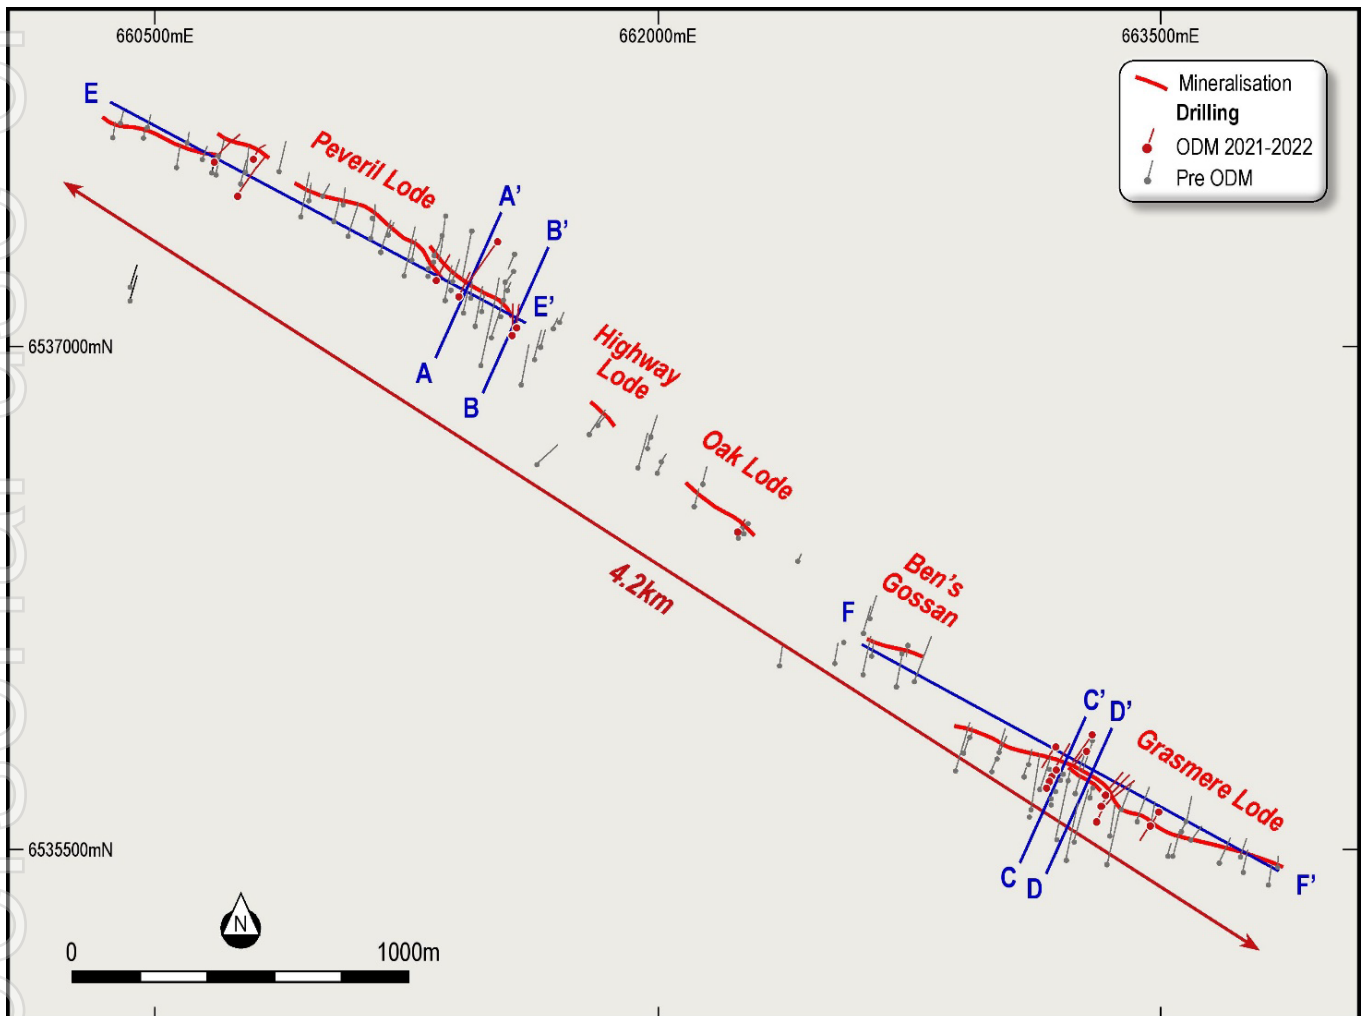
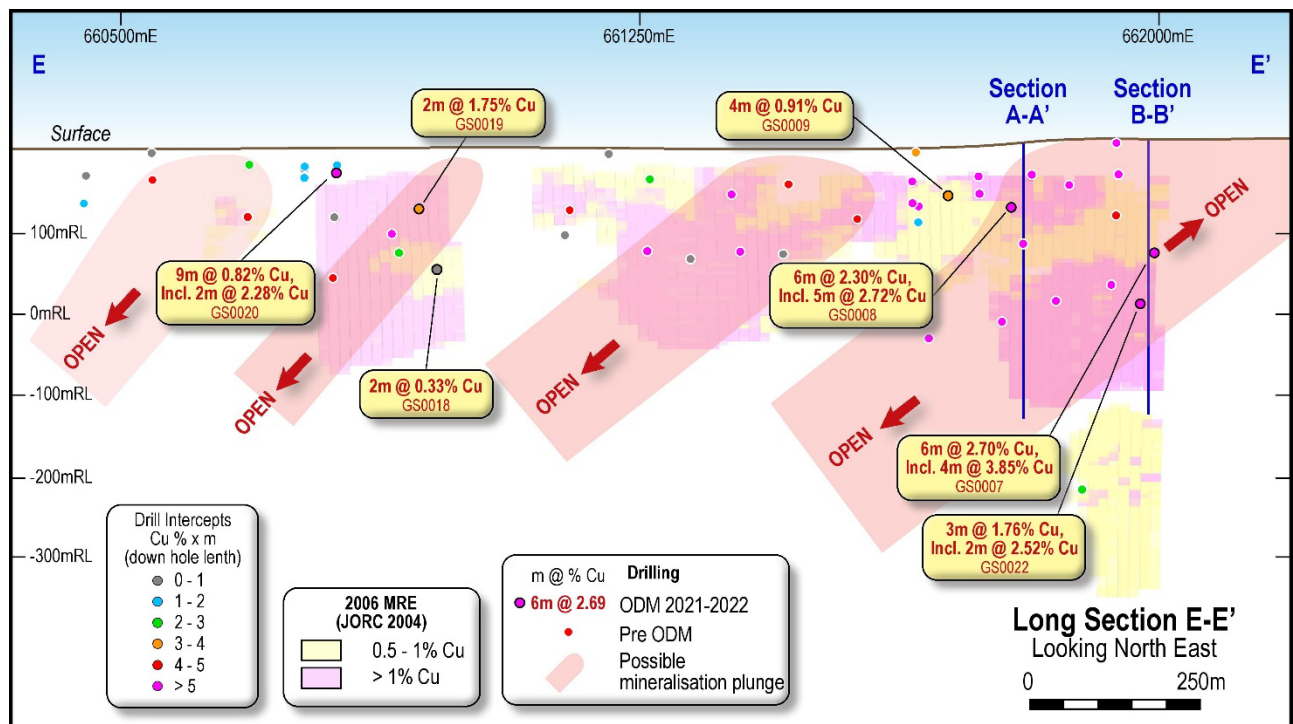

Figure 1 – Recent Drilling Collar Locations
Figure 2 – Peveril Lode Long Section E-E'
- The Grasmere historic mineral resource is dominated by drilling on two lodes (Peveril Lode and Grasmere Lode) (*Figure 1*). In many cases, previous **drilling has not closed off mineralisation** and the **system remains open along-strike and down-plunge** (*Figures 2 to 7*)
- Recent RC holes GS0007 (6m at 2.70% Cu) and GS0022 (3m at 1.76% Cu) successfully demonstrate that the Peveril Lode remains open along strike and down plunge (*Figures 2 and 4*)
- **The individual Grasmere lodes are separated by numerous ‘gap’ zones that have not been adequately drill tested along the known 4.2km mineralised corridor** (*Figure 1*)
- **Grasmere is located within a structurally controlled VMS trend that extends for >22km** (*Figure 9*), within which the historic mineral resource estimate⁴ exists in a series of individual lodes that total ~3.3km of strike (*Figure 1*)
Grasmere is located within a structurally controlled VMS trend that extends over >22km (Figure 9). Historic RC/DD drilling has been carried out in only a small portion (~5km) of this trend, within which the historic resource estimate⁴ exists in a series of individual lodes that total to ~3,3km in strike (Figure 1).
demonstrated that the mineralised system is open in multiple directions (*Figures 2 to 7*). Drilling returned significant mineralisation, including: